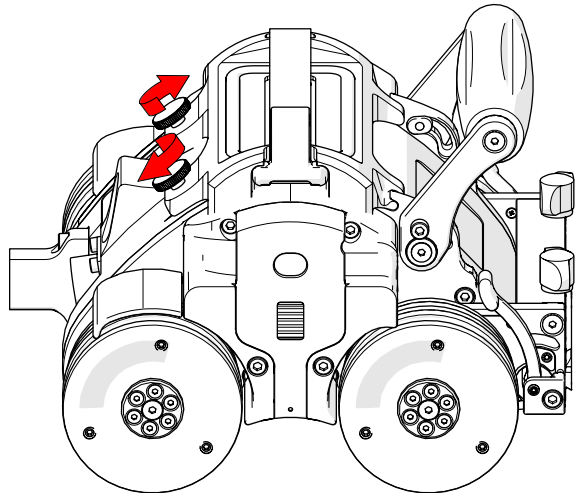

Fig. 105 - Tighten thumb screws
3. Lower the backpack to the **SKOOT** and tighten the thumb screws to secure the backpack (Fig. 105).